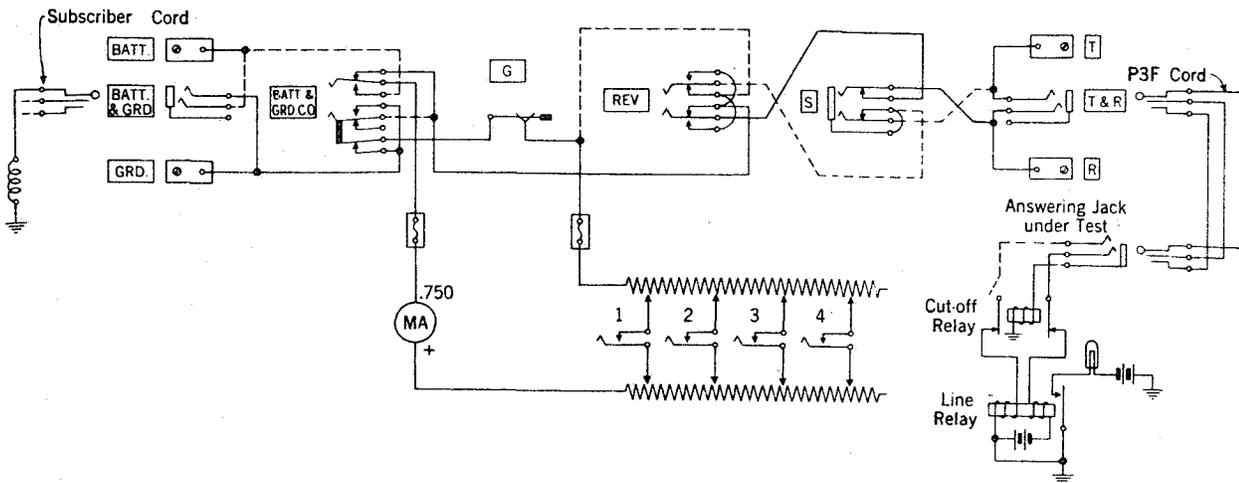

Fig. 3 - Line Relay - Battery on Ring, Tip Open.
3.06 For P.B.X. trunks with battery on the ring and with the tip open, the REV key should be normal and switch G should be closed. Connect an idle subscriber cord to the TEST BATT & GRD jack of the test set. See Fig. 3.